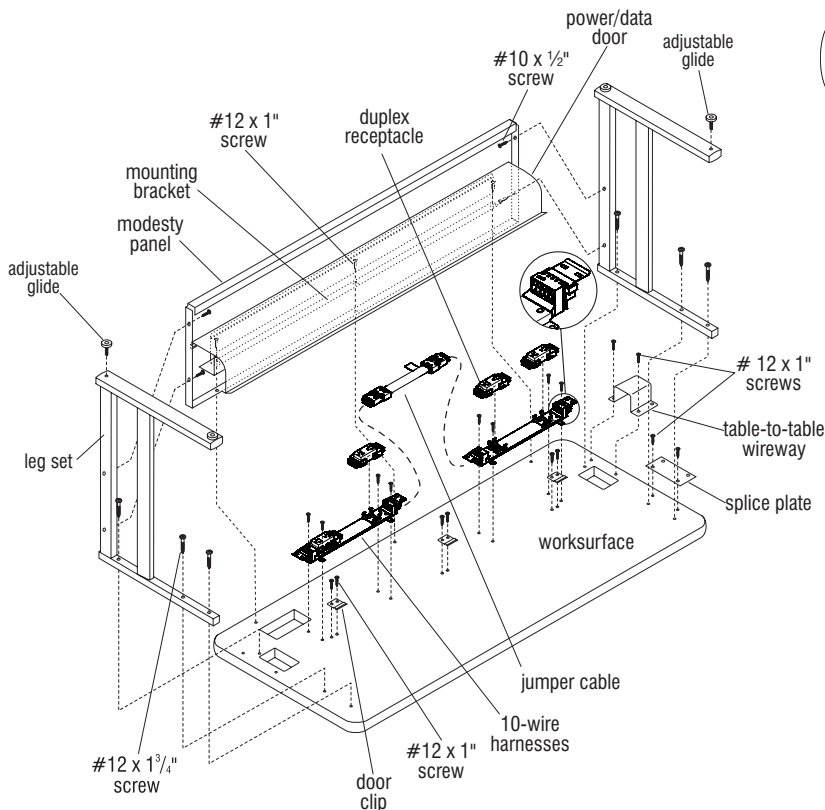

Figure 1
2. Attach two leg sets to workspace bottom by aligning legs to pre-drilled holes and inserting three #12 x 1 3/4" screws per leg set (Figure 1).
3. Align modesty panel between leg sets. Insert two #10 x 1/2" screws per left and right side of modesty panel into leg. Do not tighten at this time (Figure 1).
4. Position the mounting bracket of the power/data door over the modesty panel holes that correspond with workspace holes. Insert three #12 x 1" screws through the mounting bracket and modesty panel into the workspace. Tighten all screws to secure the leg sets and modesty panel (Figure 1).
5. Fasten door clips to the underside of the workspace with two #12 x 1" screws per door clip (Figure 1).
**Note:** Whenever tables are to be joined with a table-to-table wireway and splice plate (Figures 1 & 2), the inner and outer vertical wireway sections must be installed into the leg prior to installing the table-to-table wireway to the workspace. Refer now to the "Note" and step 9 if this is the case. Then return back to step 6 below.
6. If workspaces will be ganged together, attach table-to-table wireway to underside of workspace with two #12 x 1" screws on ganging end(s). Also, attach splice plate to workspace with two #12 x 1" screws at same end(s) (Figures 1 & 2).
**Note:** All 10-wire harnesses must be oriented the same direction to make proper connections. At one end of each harness, on the black connector near the clip, is an (N) and arrow under the workspace at the left side, with the arrow pointing to the modesty panel.